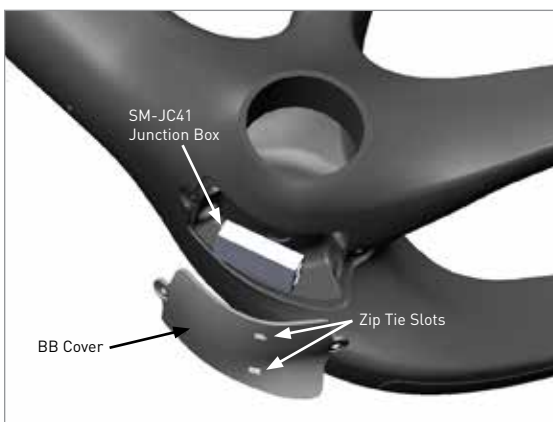

Figure 4
7. Once the wires are attached to the junction box, use a small zip tie to secure the junction box to the bottom bracket shell cover through the small slots on the cover so the wires and box are neatly tucked inside the bottom bracket shell (Fig. 4).